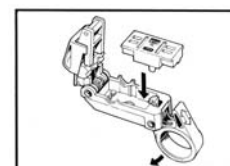

Figure 19
- C.** Installation of adjustment gauge. The gauge is marked with different cable types. Install gauge so that the markings, which correspond to the cable type to be stripped are above the adjustment screws (Fig. 19). Close the tool.